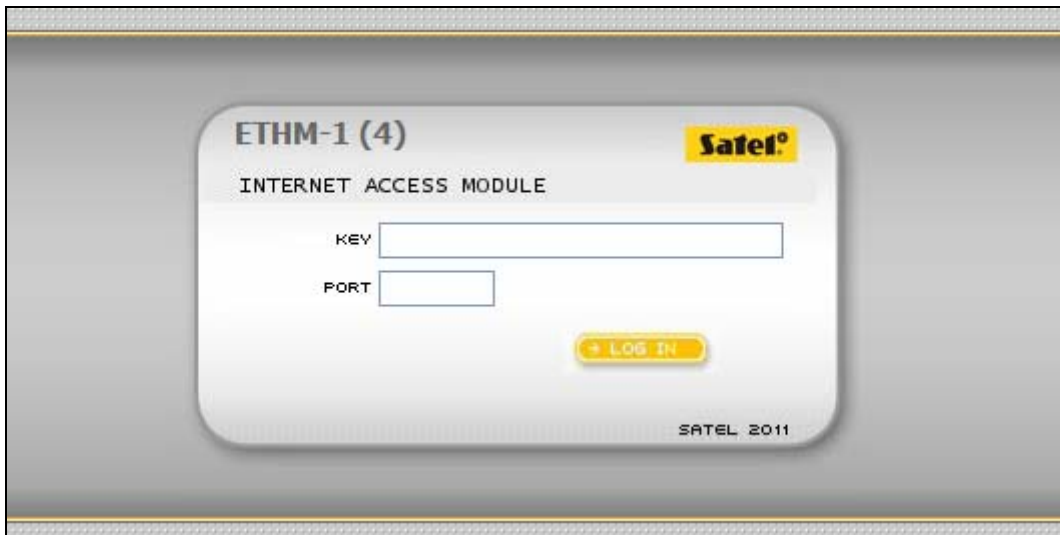

Fig. 13. Web browser: login page.
3. When the login page displays (Fig. 13), enter in the corresponding fields: